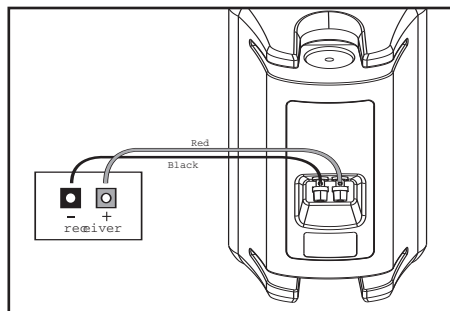

FIGURE 14
- 14) Follow the hookup directions included with your receiver. Strip 1/2 inch of insulation from each of the two conductors of the wire to expose the bare metal and twist each of the conductors into a single unfrayed strand (so you have two unfrayed strands). Note that one of the terminals on the rear of each speaker is red (+) and the other is black (-). Make certain that you connect the wire from the red terminal on your amplifier or receiver to the red terminal on your speaker and the wire from the black terminal of your amplifier or receiver to the black terminal on your speaker [figure 14]. Most wire has some indicator (such as color-coding, ribbing or writing) on one of the two conductors to help you maintain consistency.